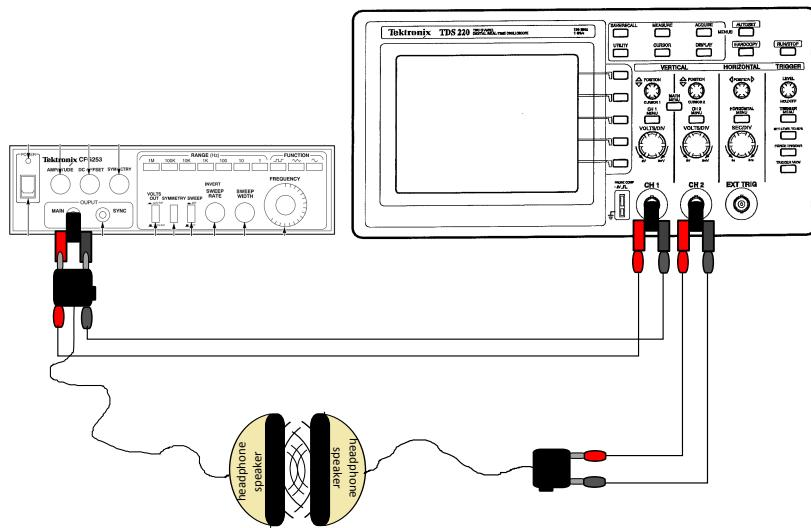

Figure 3: Circuit diagram for part 3 of this experiment.
1. To create a sound wave, hook up the output of the function generator to the headphone speaker, as partially shown in Figure 3. There is a tab on the side of the headphone adapter to tell you which pin corresponds to ground. Try a sine wave with a frequency of around 500 Hz to begin with, turn up the amplitude to a bearable level, and tune the frequency until you hear a tone you can listen to without cringing. What are the frequency limits of your hearing range? How do the triangle or square waves sound in comparison to the sine wave?